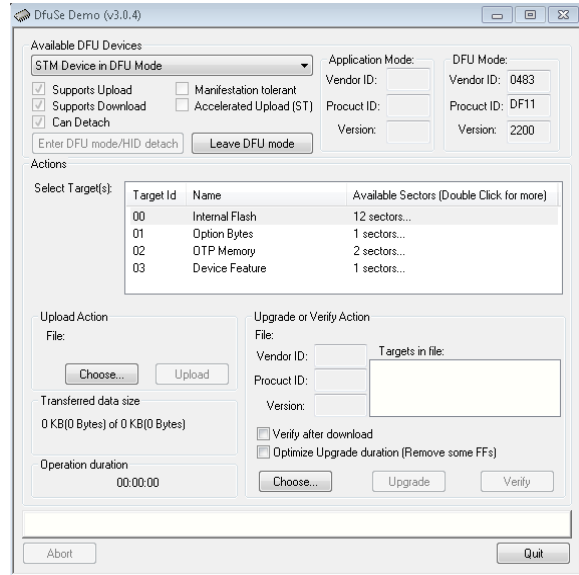

Figure 8. DfuSe Demo Settings
6. Open the **DfuSe Demo** by going to **Start > All Programs > STMicroelectronics > DfuSe > DfuSe Demo**. Figure 8 shows the **DfuSe demo** settings at startup.